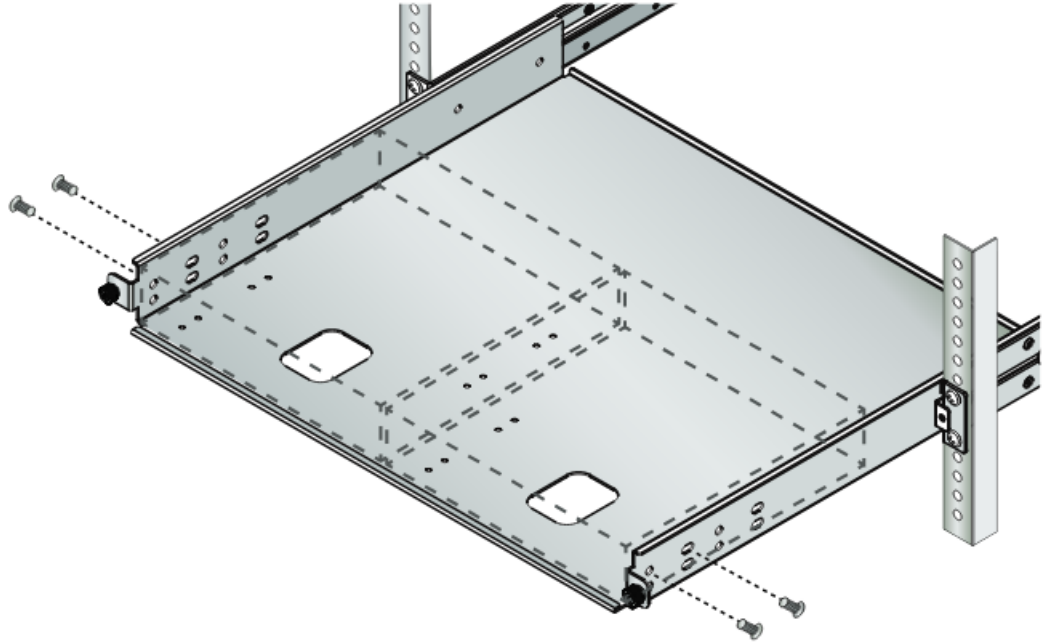

Figure 24. Placing the Switch in the AT-RKMT-J15 Tray
5. Place a switch in the tray and secure the switch to the tray with the head screws through the holes on the slide rail weld. See Figure 24 on page 55.